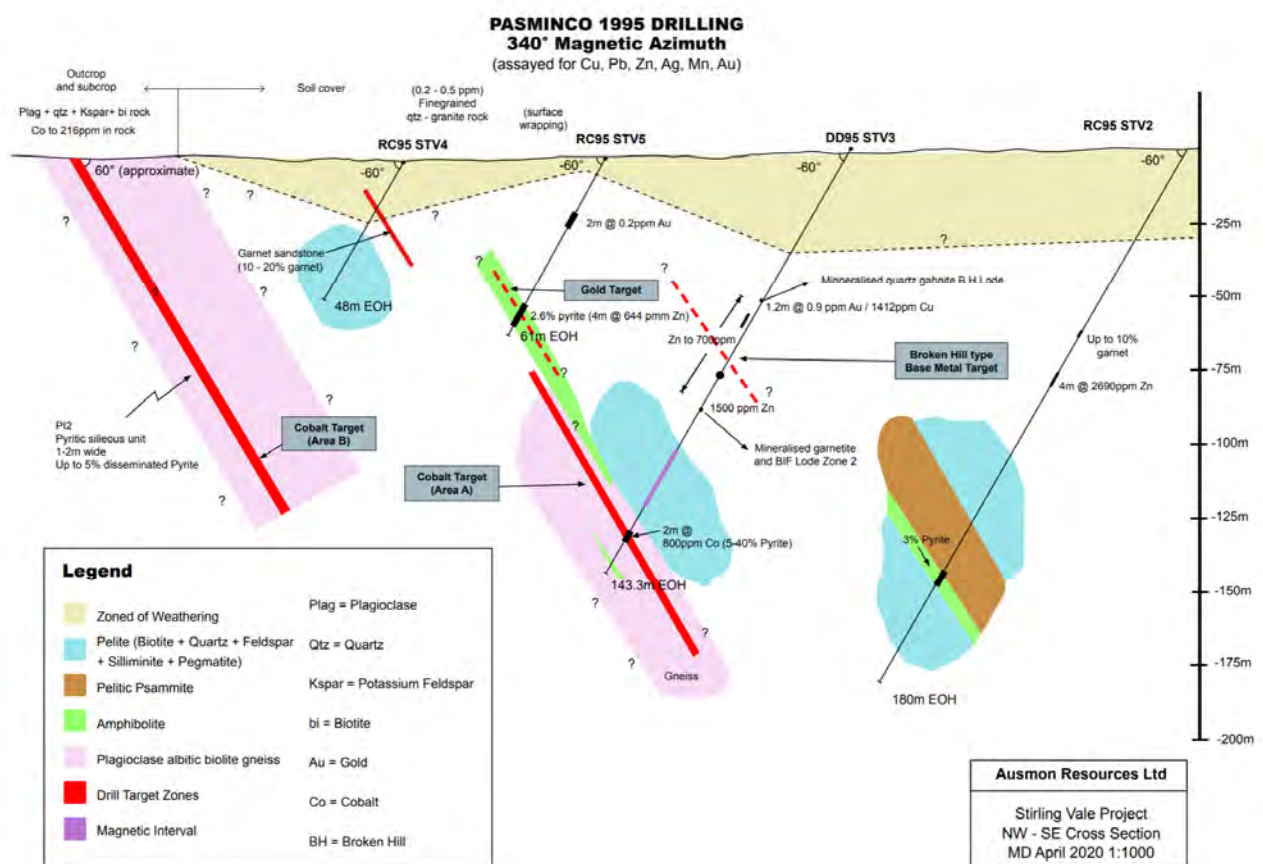
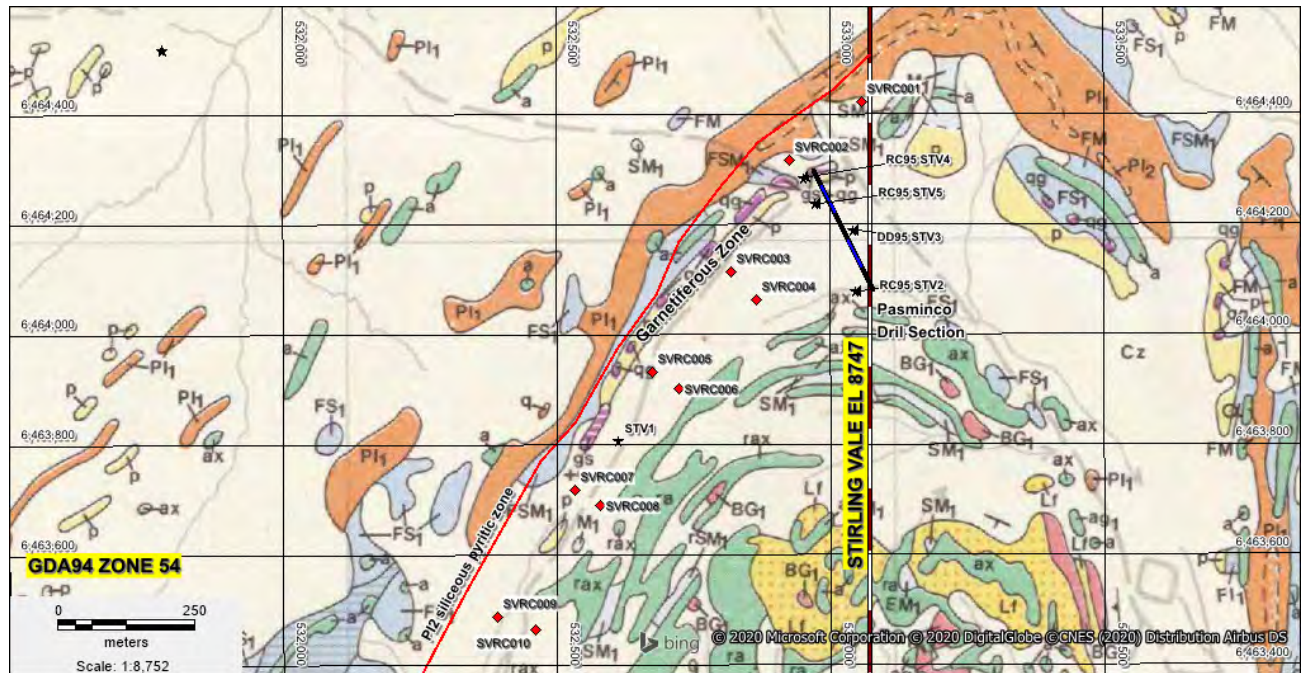

Figure 6: Stirling Vale Cross Section Diagram
Figure 7: EL 8747 showing the proposed drill sites SVRC001 to 010, Pasmaenco drill holes RC95STV2, 4 and 5 and DD95STV3 on the outcrop geology map
by Pasminco in 1995 has highlighted several zones of potential gold and base metal mineralisation that require drill testing. The zones to be drill tested are shown in the cross section (**Figure 6**) as solid and dashed red lines and from west to east on the cross section are:
- In addition, both gold and Broken Hill style base metal mineralisation was noted by Wolfgang Leyh and form separate zones to be drill tested as part of drill holes SVRC003 to 010 (**Figure 7**)
Figure 7 shows the proposed ten drill sites SVRC001 to 010 (red diamonds) on the 1:25000 outcrop geology base along with the four 1995 Pasminco RC drill holes (95STV2, 4 and 5) as well as a diamond core hole DD95STV3 shown as black stars adjacent to the Pasminco Drill Section (blue/black line). The Pasminco Drill Section is shown in **Figure 6** and including the 1995 Pasminco drill holes. The currently proposed 2020 drill holes SVRC003 to 010 will be replicating the Pasminco drill holes DD95STV3 and 95STV5 along the 1.5 km target zone.
The location of drill hole 95DDSTV3 and an adjacent drill sump in 2018 (**Figure 8**) with very similar coordinates to the 1995 AMG coordinates (converted to GDA 94 in 2018) adds confidence that the drill hole located in 2018 is actually 95DDSTV3 on a Pasminco drill traverse that includes RC drill holes 95RCSTV2, 4 and 5 and so accurately locates the drill section located in **Figure 6**.